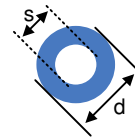

图 11-2. Thermal Pad Layout Recommendation
- The thermal pad should be tied to the PCB ground plane with a minimum of 25 vias. See Figure 11-2 for an example.